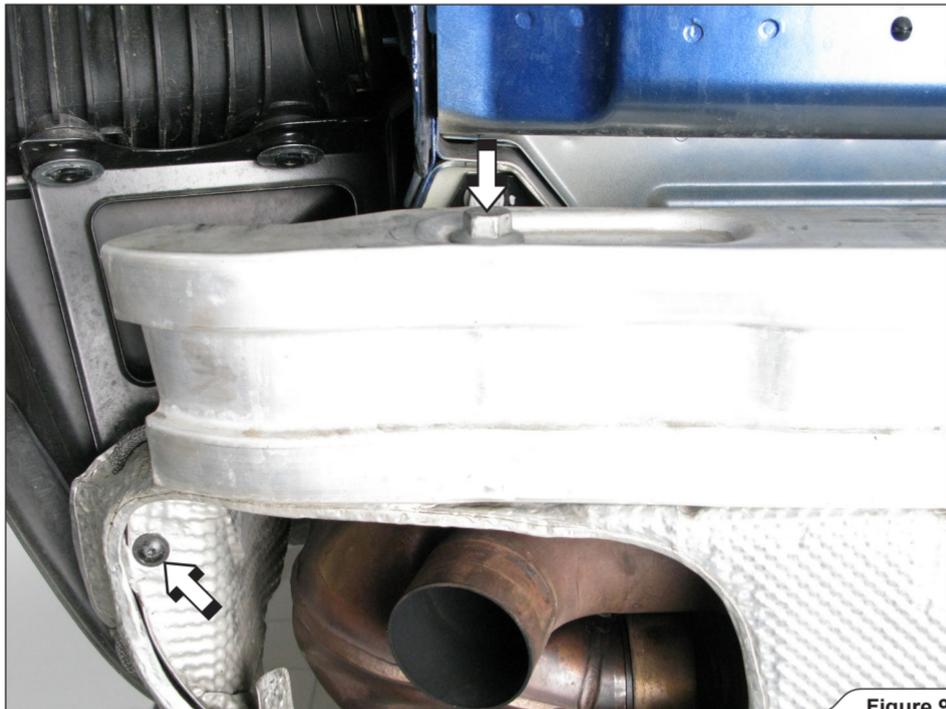

Figure 9
6. **For Slip-On and Slip-On with optional Link Pipes:** unscrew the marked bolts on both sides of the vehicle and remove muffler's heat shield (**Figure 9**).